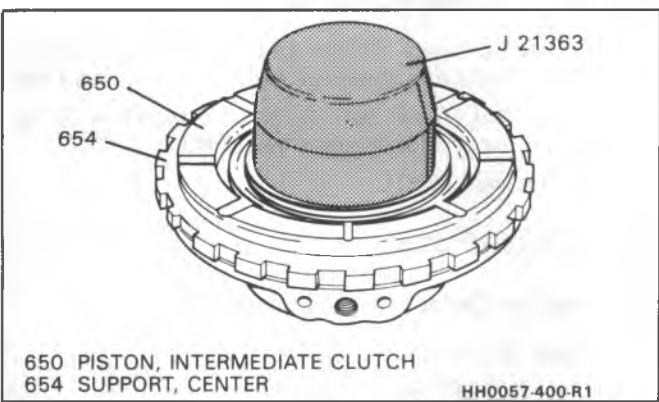

Figure 48 - Installing Intermediate Clutch Piston Seals
**Assemble (Figure 48 and 49)**